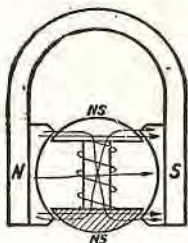
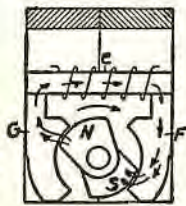
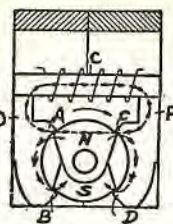

Fig. 3
Fig. 5
Fig. 7
Fig. 3 shows the "neutral" position of the armature wherein it is subject to flux-flowing across through its ends as shown. This position does not permit of an abrupt change of flux-flow as hereafter described, and such as occurs in the Dixie. The armature is never completely out of the flux, but simply turns around in the flux-stream, twisting the lines about, but not actually abruptly breaking them.
The magnet is positioned at right angles to the rotating poles or ends of a field structure consisting of laminated pole-pieces (F) and (G) (Fig. 5), carrying across their top the laminated core (C) carrying the windings (W). When (N) is opposite (G) the flux flows from one pole (N) of the magnet to (G) and through the core (C) to (F), this action corresponding to what happens in the armature type with the armature in the position shown in Fig. 1.
Fig. 7 represents the rotating poles occupying a position midway between that shown in Figs. 5 and 6. Here the field pieces (F) and (G) are magnetically short-circuited, as it were, thereby completely scavenging stray lines of flux out of the core (C). Compare this with the uncertain corresponding action that takes place in the armature type, when the armature is in the same position (Fig. 3).